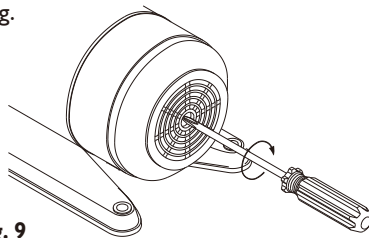

Fig. 9
3. If the pump shaft is seized up after periods of inactivity, please place a screw driver from the motor end to rotate the shaft. (See Fig 9) If this does not remedy the problem, the unit will need dismantling.